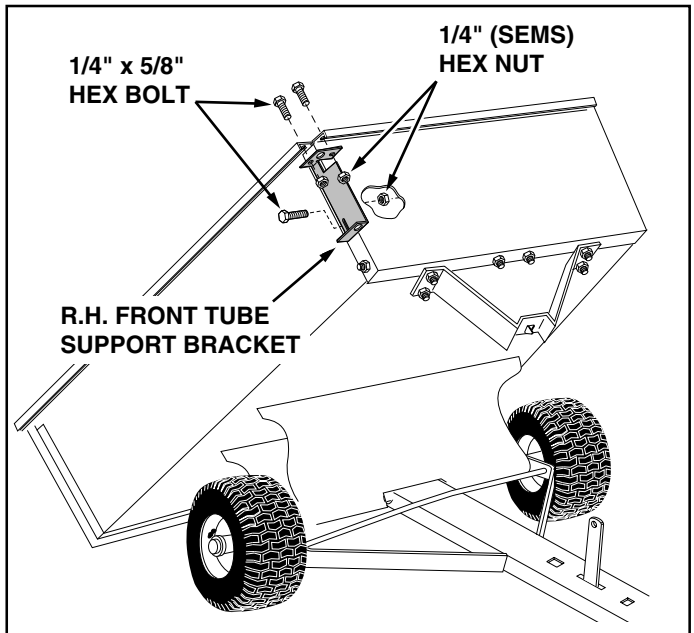

FIGURE 10
21. Place the R.H. Front Tube Support Bracket under the top flanges of the cart, as shown in figure 10. Fasten the bracket to the cart using three 1/4" x 5/8" hex bolts and 1/4" SEMS hex nuts. **Do not tighten yet.**